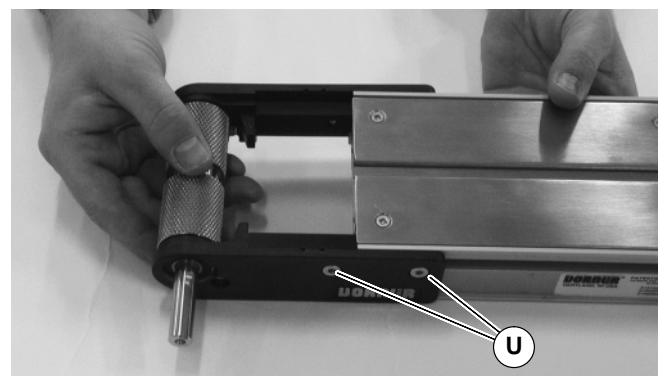

Figure 33
1. On both sides of conveyor, loosen two (2) fastening screws (U of Figure 33). Then slide drive pulley assembly out from the conveyor frame.